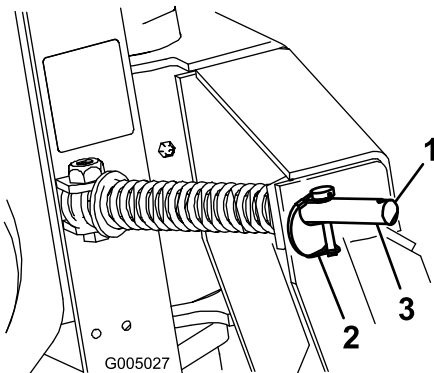

Figure 6
1. Move the lynch pins to the outside holes on the spring rods to allow the plow to move from side to side (Figure 6).
1. Move the lynch pins to the inside holes on the spring rods to prevent side-to-side movement (Figure 6).